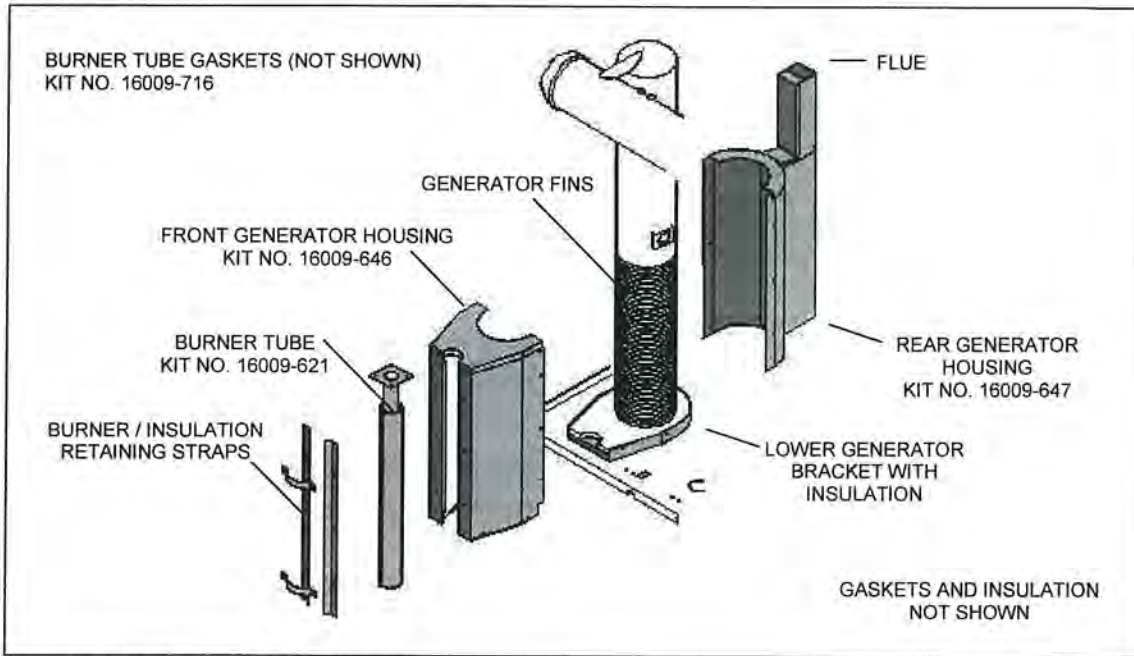

Figure 31 – GENERATOR ASSEMBLY
10. Remove screws holding burner and insulation retaining straps (see Figure 31).
11. Pry bottom of burner tube out to clear bottom of generator housing. Pull burner down and out to remove from front generator housing (see Figure 31).
12. Remove sheet metal screws holding front and rear generator housings together (see Figure 31).
5. Look down the flue opening at the back of the generator housing and clear any debris that may be obstructing the opening (see Figure 31).